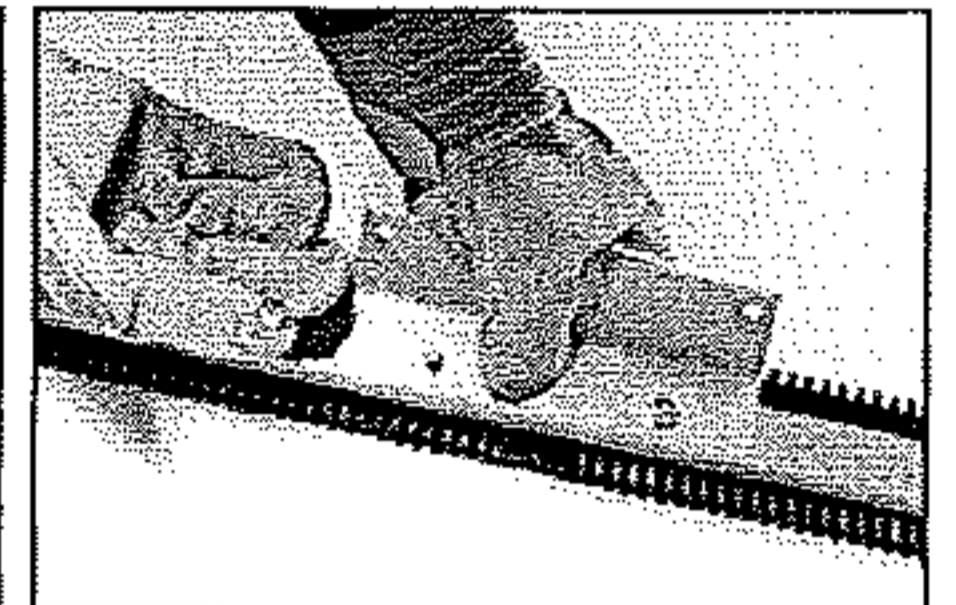

Fig 5
6. From the underside, insert 2 short bolts (D) in the 2 center holes of the steel serrated blade (A), up through the “L” shaped stiffener bar (B) and through the adapter plate (C) (figure 5).
7. Place loc nuts (E) on the bolts (D) and use 2 wrenches to tighten.